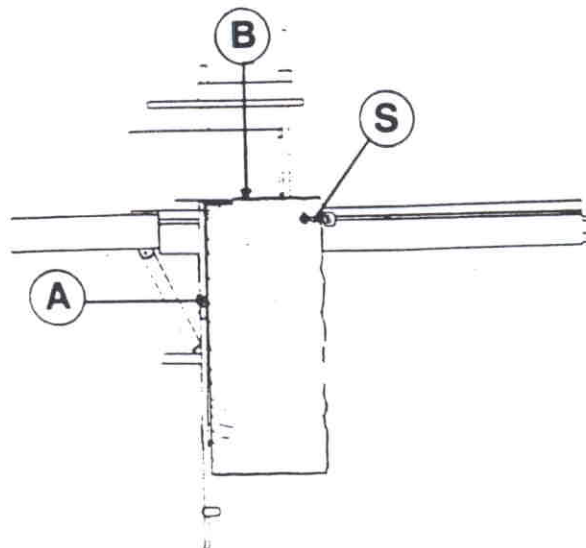

Fig.42
- Turn panel 90° so that the trimmed side (A fig.42) rests against the aluminium fence, then carry out cut (B).